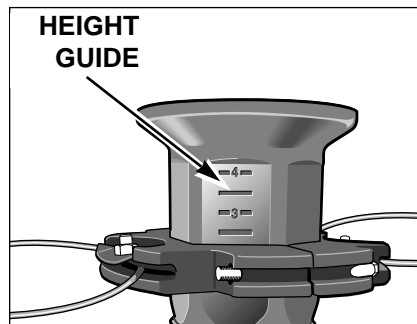

Figure 4-2
C. Note the cutting heights marked on the side of the spindle head (Figure 4-2). Move the top of the trimmer head to the desired setting.